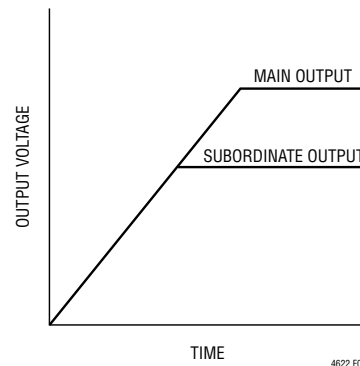

Figure 6. Output Coincident Tracking Waveform
The Coincident output tracking can be recognized as a special Ratiometric output tracking which the main's output slew rate (MR) is the same as the subordinate's output slew rate (SR), as waveform shown in Figure 6.